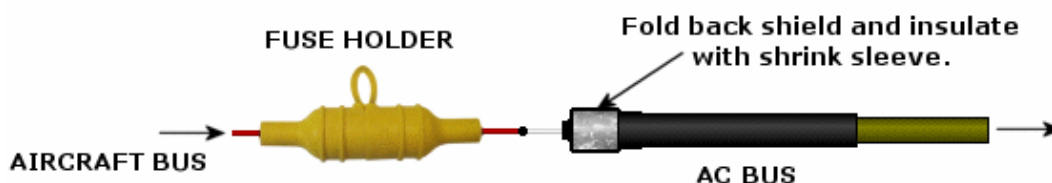

Figure B- 18: Aircraft Bus Final Wiring
- ⇒ *Ensure that any connection to aircraft power incorporates a minimal wire length from the power source to the protection device, fuse or breaker. Recommended length is six (6) inches or less.*
- ❑ 010 Following the illustrations (Figure B- 18) connect the AC BUS “AAV19A24” wire to supplied fuse holder. Connect to aircraft bus (switched) power. Refer to Section 5.2 for the applicable power connection